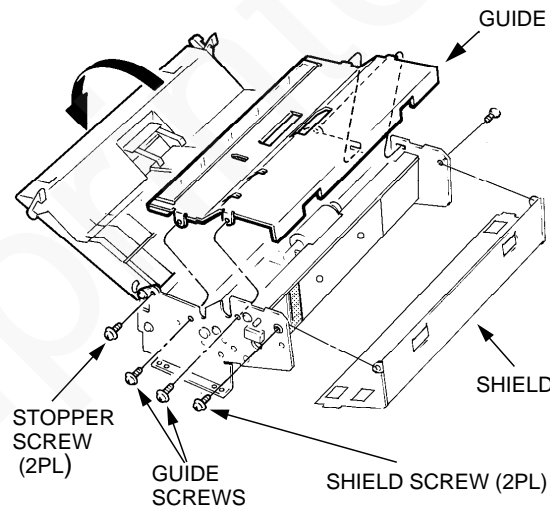

Figure 2. Guide/Shield
- a. Remove the two screws (figure 2).
- a. Remove the two screws retaining the shield (figure 2).